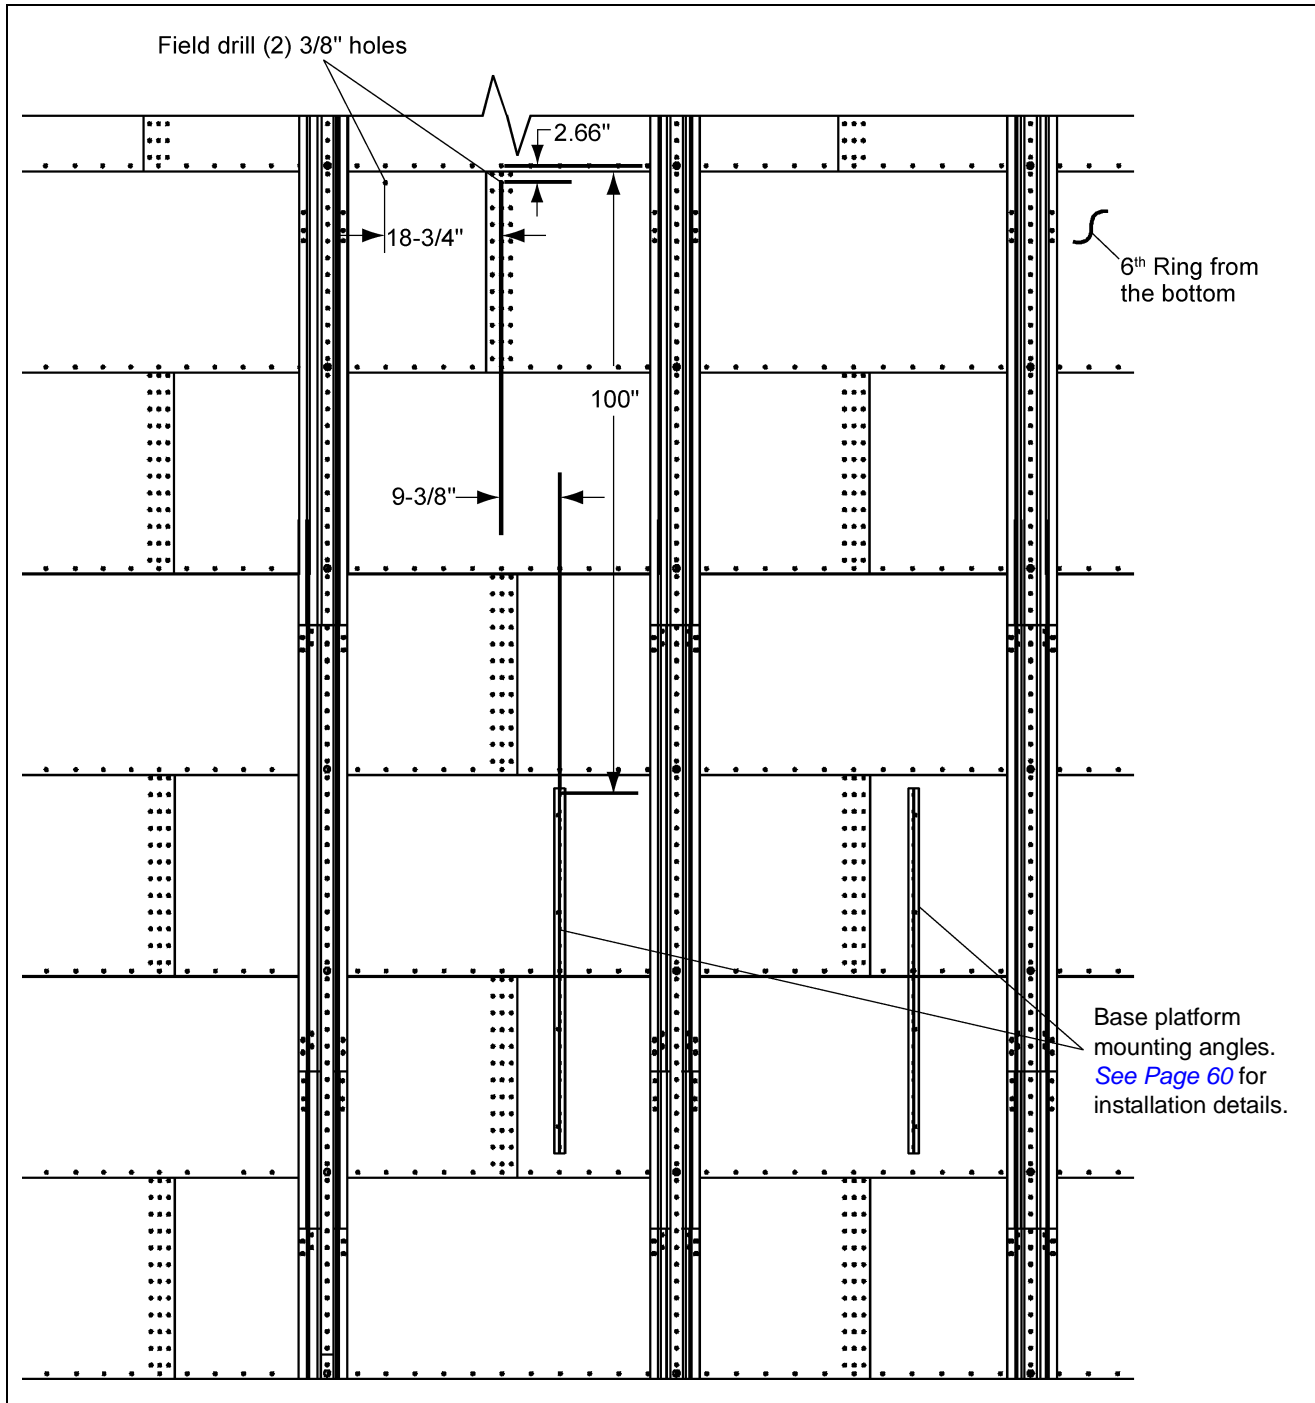

Figure 6X
Before installing the starter brackets, field drill two (2)  $\frac{3}{8}$ " holes 2.66" below and directly in line with the top horizontal seam holes located in the sixth ring from the bottom of the tank. The first hole, for the right-hand starter bracket, must be located  $9\frac{3}{8}$ " from the center of the left-hand base platform mounting angle to the center of the hole. The second hole, for the left-hand bracket, must be located  $18\frac{3}{4}$ " from the center of the first hole. Refer to Figure 6X for the proper location of the two (2)  $\frac{3}{8}$ " field drilled holes required to install the starter brackets.